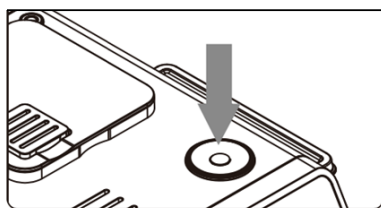

Fig. 2
- Touch screen display (1).
- Controller (11), located on the top panel of the coffee machine (Fig. 2).